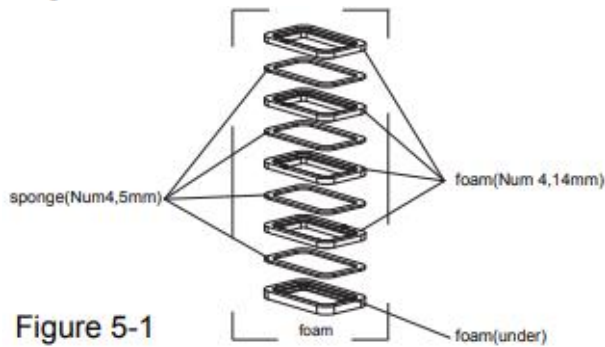

Figure 5-1
5. Before installing the air duct assembly of the indoor unit of recreational vehicle air conditioner, assemble the foam assembly according to the thickness of the vehicle's top. After simulated installation, use an appropriate amount of sponge and foam assembly. Stick the sponge and foam assembly with double faced adhesive tape (prepared by user) (See Figure 5-1, Figure 5-2)